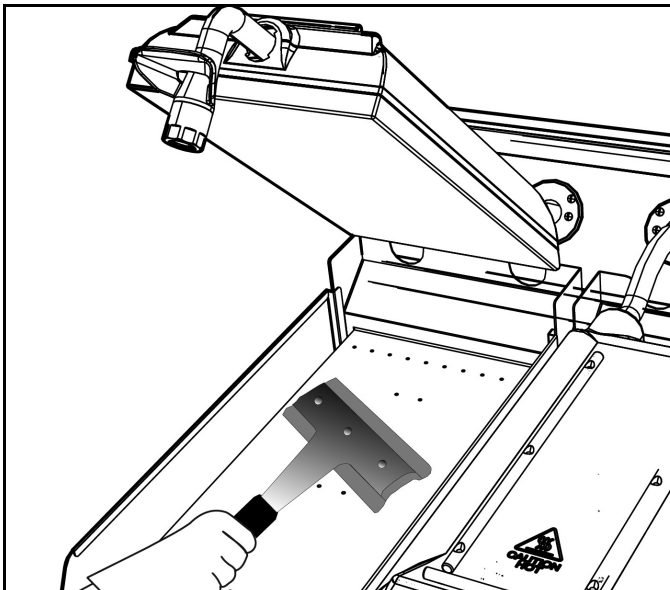

Figure 6-8
7. Use the squeegee to remove the cleaner and then rinse all the areas with a wet white towel. Rinse the towel as needed. Squeegee again if needed. Wipe all surfaces with a clean dry white towel. See Figure 6-8